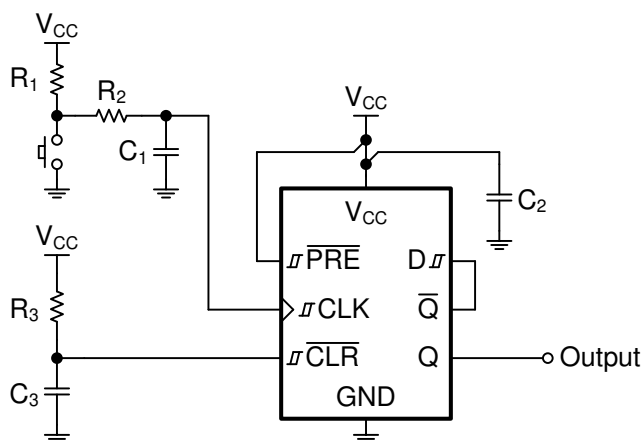

图 12. Device Power Button Circuit
With the SN74HCS74-Q1, a power on reset circuit only requires a resistor (R) and capacitor (C) to create a delay. The R and C values create a delay that is approximately $2.2 \times RC$. An additional Schmitt-trigger input device would be required to allow this slow rise if the flip-flop did not have Schmitt-trigger inputs. In this application, it is desired to have the output (Q) in the LOW state at startup, so R_3 and C_3 are connected directly to the \overline{CLR} pin, as shown in 图 12.